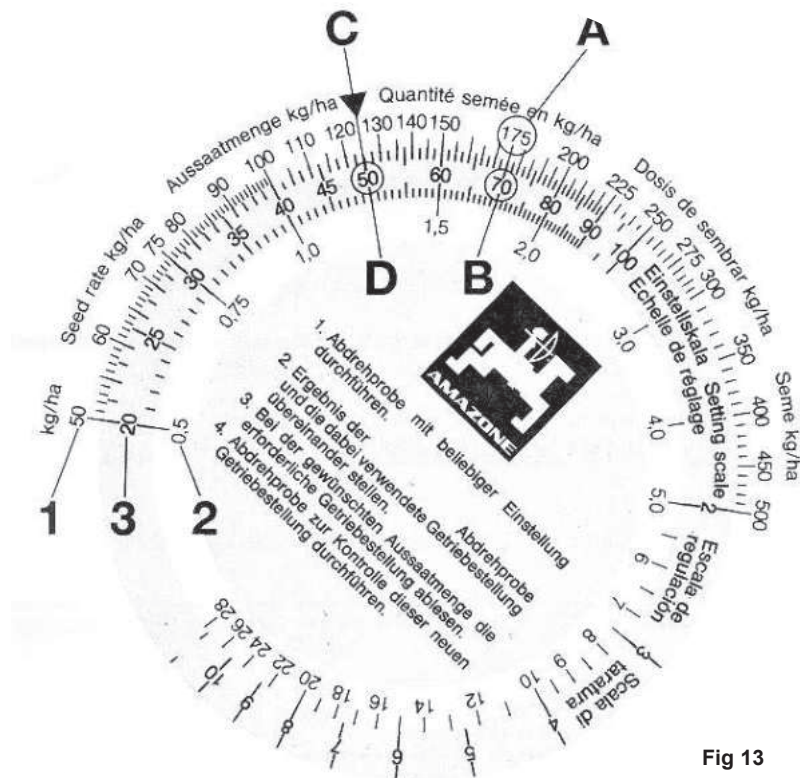

Fig 13
Usually the first calibration test yields a different seed rate. However with the value determined from the first test it is possible to determine the correct gearbox setting with the aid of the enclosed disc calculator (Fig 13). The disc calculator consists of 3 scales. An outer white scale (1) for all seed rates above 30 kg/ha and an inner scale (2) for all seed rates below 30 kg/ha. On the middle coloured scale (3) are all the gearbox setting numbers to a maximum value of 100.
- 2 Turn the inner disc until the measured seed rate of 175kg/ha (A) is in line with the related actual gearbox setting of "70"(B) (Fig 13).
- 3 Read off from the disc rule the necessary gearbox setting for the required seed rate of 125kg/ha (C). In this example the correct setting is "50" (D) (Fig 13).
For determining the correct gearbox setting after the speed change, conduct the first test at 50. With the weight of seed collected find your correct setting with the aid of the disc calculator, refer Page 19, Fig 13.